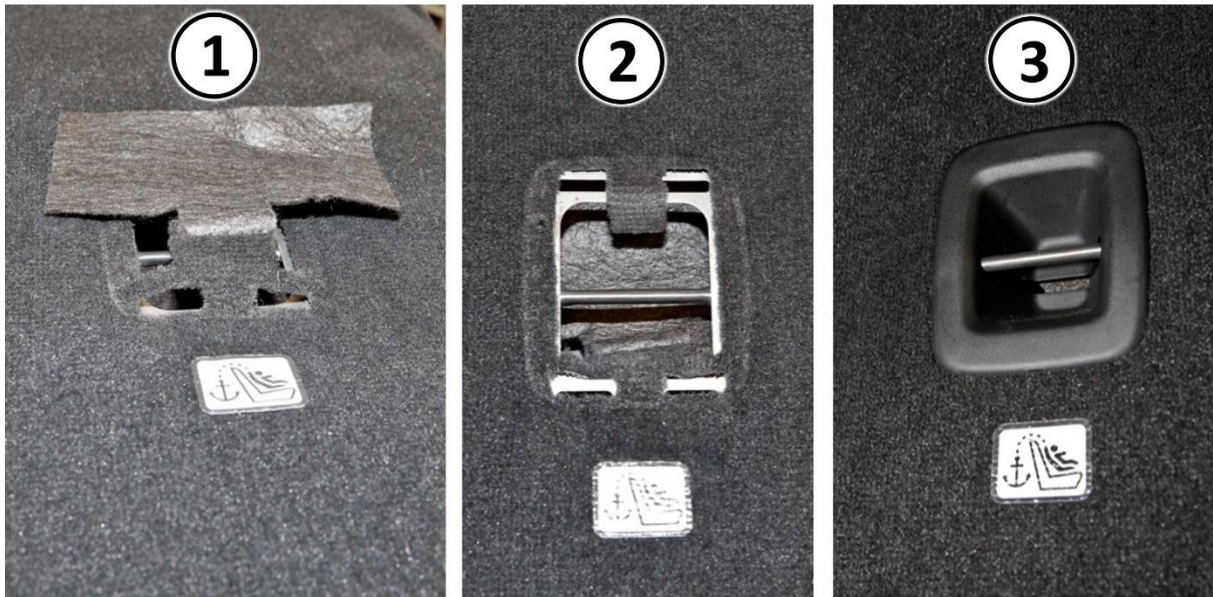

Figure 11 – Tether Bezel
19. Insert the seat back fabric flap into the tether pocket then install the tether bezel to the seat (Figure 11).